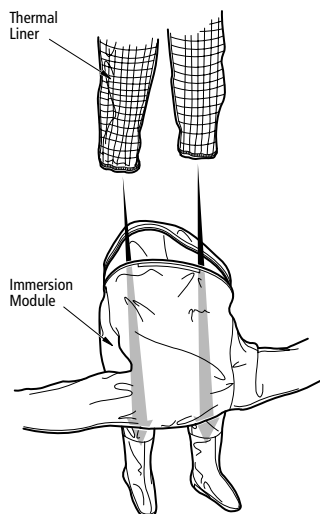

FIGURE 3
- b) Keeping the bottom flat and straight, use an overhand grasp to insert each leg of the thermal liner down into each leg of the immersion module until it reaches the interconnection zipper at the ankle (see fig. 3).